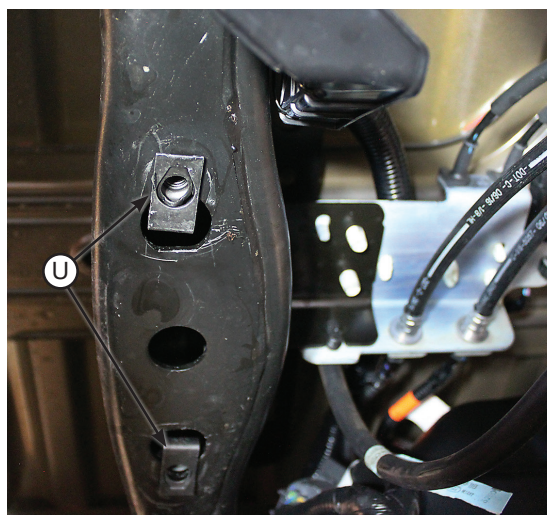

fig. D.4
3. Install the universal nuts (U) into the frame rail, lining up the holes in the frame and the threads in the nuts so that a bolt can be installed (Fig. D.4).